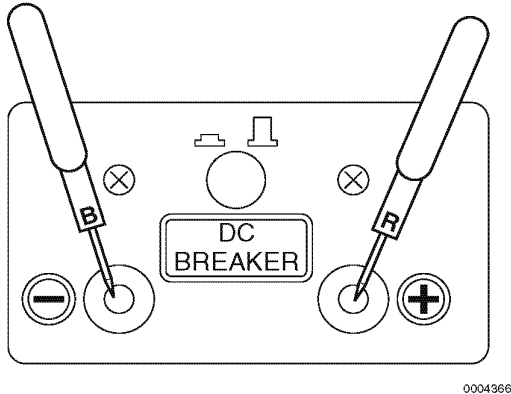

Figure 7-25
2. Measure the voltage using a DC volt meter between the red and black receptacles on the control panel (**Figure 7-25**).